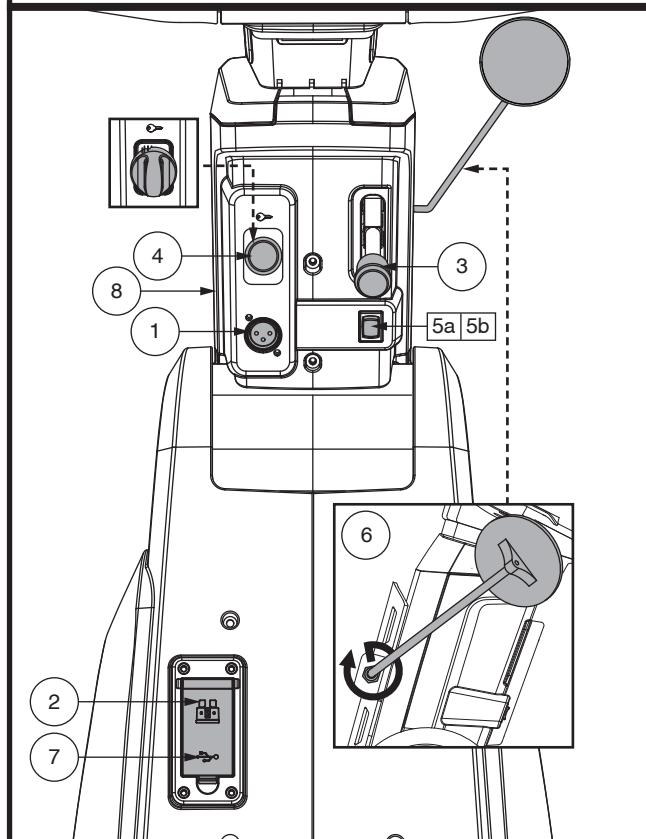

Figure 4. Lower Tiller Components
The off-board charger power cord plugs into this port during battery charging. The off-board charger port will be located on the tiller. See **figure 4**.
- Insert the key into the key switch and turn it clockwise to power up (turn on) your scooter. See **figure 4**.
This switch dictates which throttle control lever (left or right) will function. See **figure 4**.